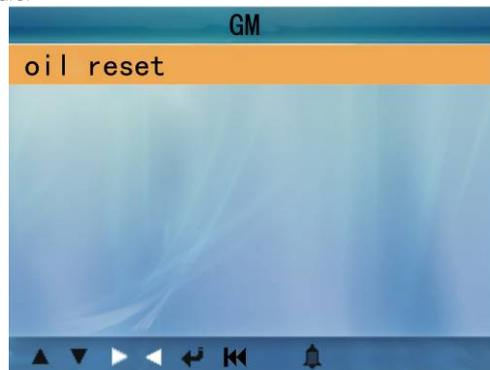

Figure 4-4
2) Press [▲] or [▼] to select GM, press [↵] to confirm, Figure 4-4 appears: